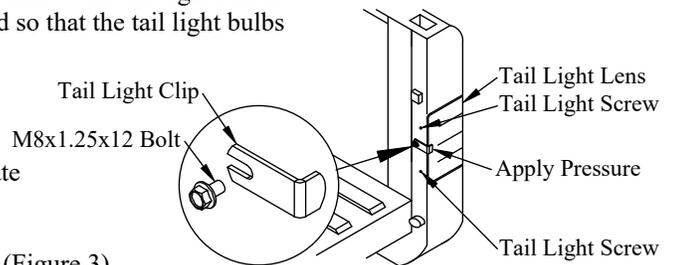

Figure 3: Tail light modification detail.
1. Remove four (4) factory tail light screws, two (2) per side (Figure 3).
2. Install M8 x 1.25 x 12 bolts and tail light clips (supplied) in the tailgate cable catch bolt locations (Figure 3).
3. Apply pressure to the tail light from the rear while tightening the bolt (Figure 3).